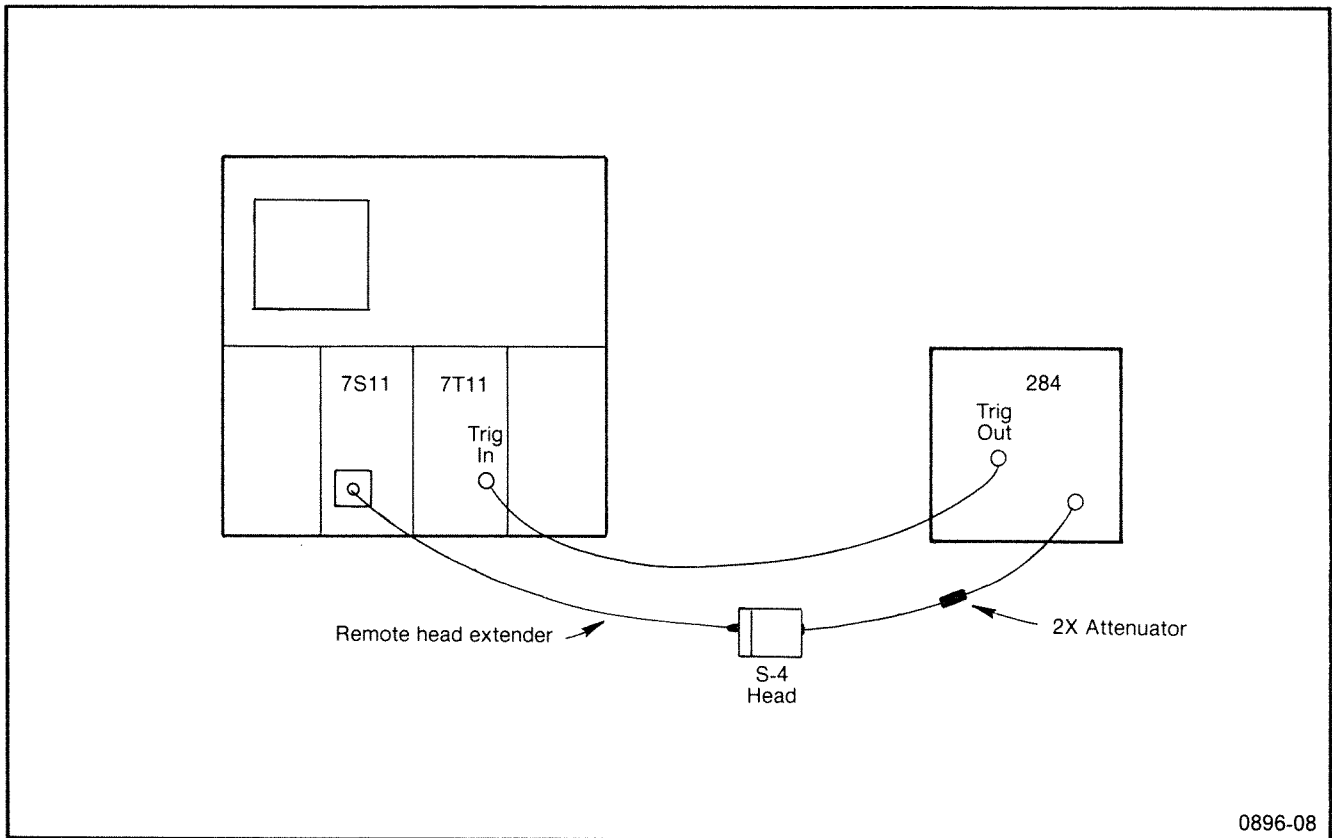

Fig. 4-1. Initial equipment setup.
f. Set the controls as listed following Fig. 4-1.
a. Connect the Type 284 Square Wave Output signal to the Type S-4 as shown in Fig. 4-1. Use a 2 $\times$ GR attenuator at the Type 284 Output connector and a GR to 3 mm adapter to the Type S-4 input connector.